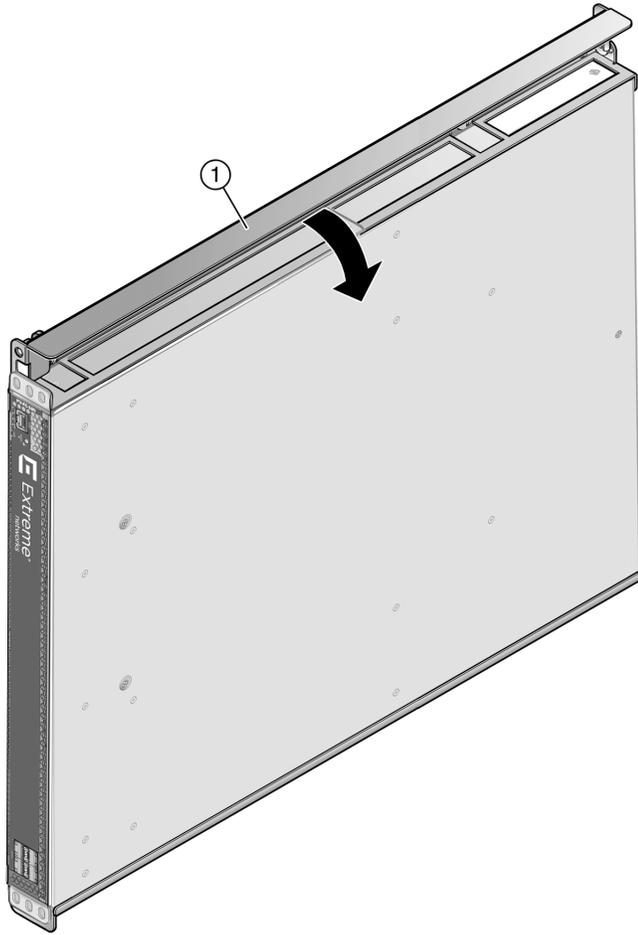

Figure 37: Closing the Gate
- 5 Close the gate to hold the PV-FC-180 chassis in place. See Figure 37: Closing the Gate on page 77. Ensure that the plungers lock into place when you close the gate. If the plungers are in the open locked position, rotate the plungers clockwise until they unlock.